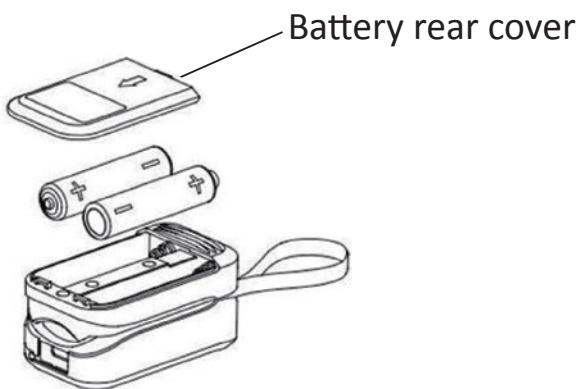

Figure 5: Installing Batteries
3. Insert two “AAA” size batteries, making sure the battery’s positive and negative poles are correctly oriented in the battery compartment as shown in Figure 5.